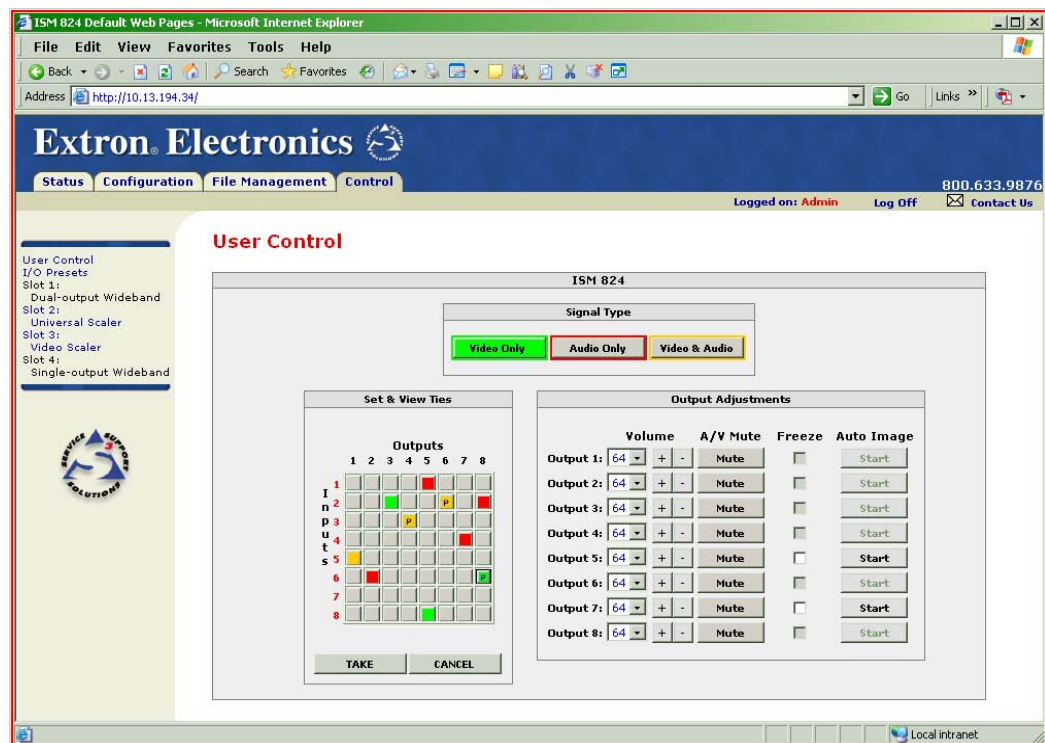

Figure 6-11 — Control pages — User Control page
Limited device configurations can be made from the User Control page (figure 6-11).
NOTE When viewing the ties on the User Control page, video ties are shown green, audio ties are red, and video and audio ties amber (see figure 6-11).
2. Click the desired input/output button in the Set & View Ties map. The button changes color according to signal type and indicates a provisional tie with a letter “P” (see figure 6-11, input #1, output #5, for example).
2. Click the input/output button of the tie to be removed. The button changes color and indicates a provisional tie with a letter "P" (see figure 6-11).